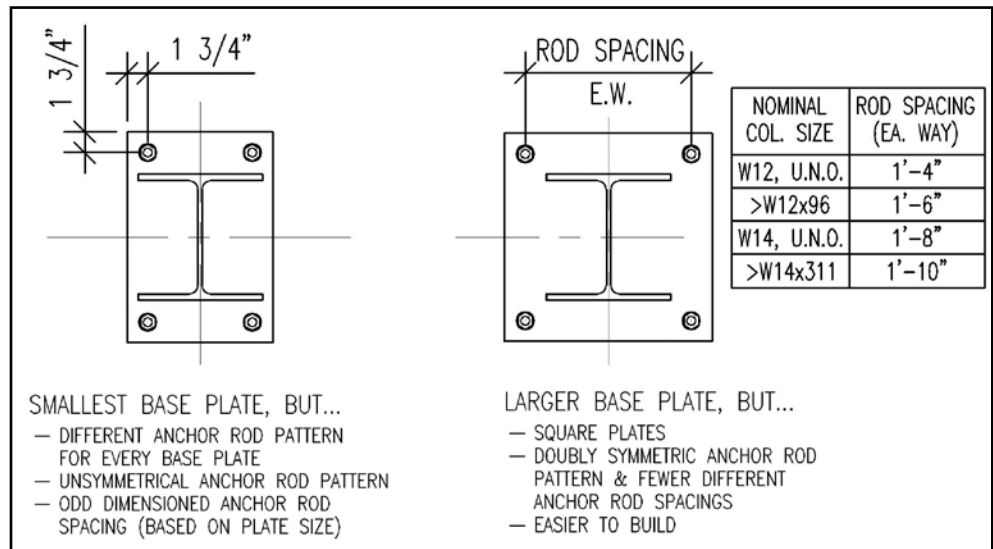

Figure 1: Simplify base plate geometry where possible.
- 2) **Use square baseplates with symmetrical anchor rod patterns.** Square plates, and symmetrical and repetitive anchor rod patterns, are easy to detail, fabricate and erect. This is a classic example of “simplicity = economy”. (Figure 1)